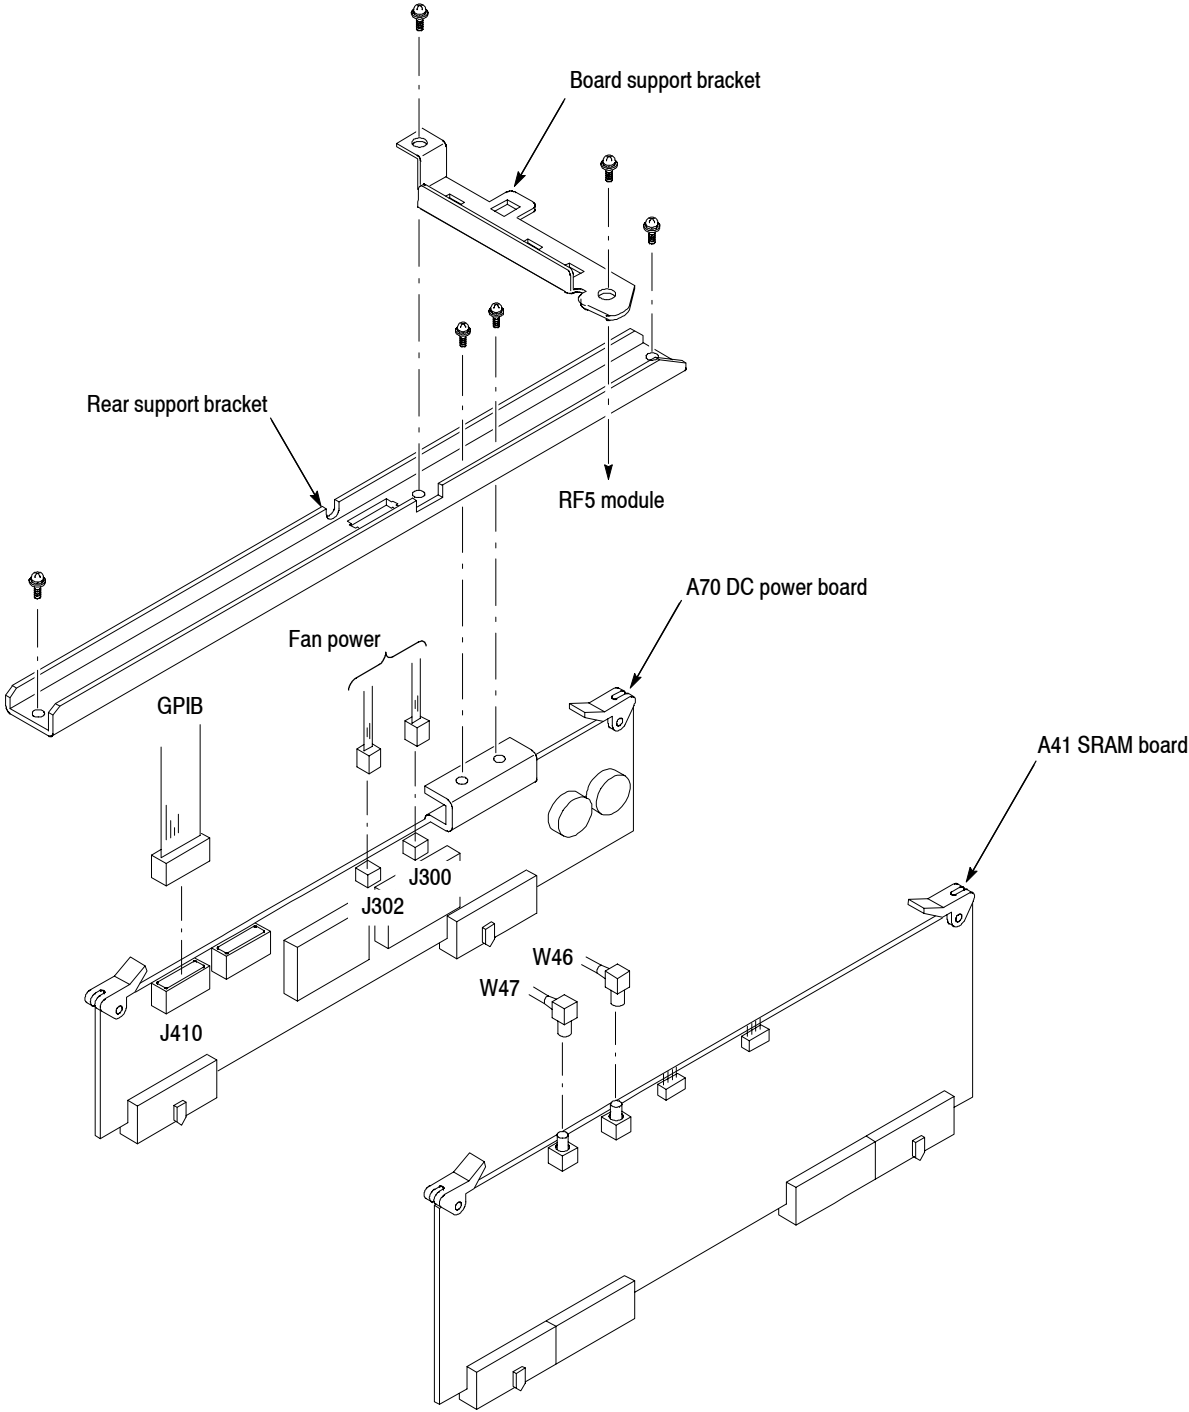

Figure 6-19: Daughter boards removal
3. *Remove the board support bracket:* See Figure 6-19 on page 6-39. Remove the two screws securing the board support bracket to the rear support bracket and the RF5 module. Lift the board support bracket away.
3. *Remove the A41 SRAM board:* See Figure 6-19. Also see Figure 6-35 on page 6-73 for the cable interconnection.
3. *Remove the rear support bracket:* See Figure 6-19.
4. *Remove the A70 DC power board:* See Figure 6-19.